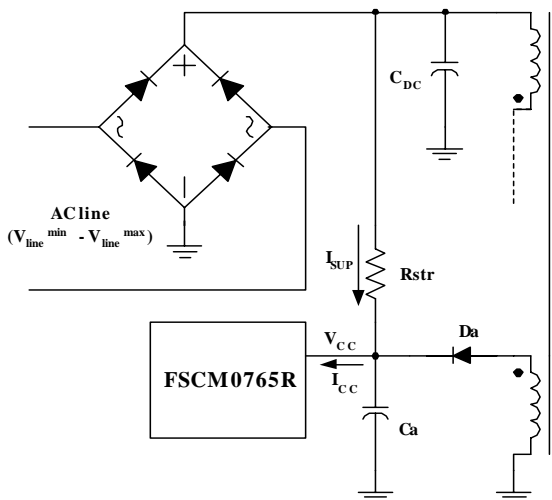
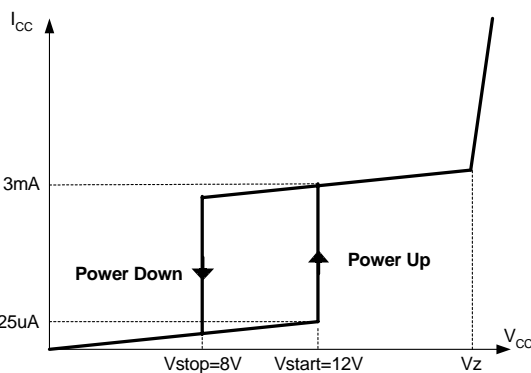

Figure 16. Startup Circuit
Figure 17. Relation Between Operating Supply Current and Vcc Voltage
1. Startup: Figure 16 shows the typical startup circuit and transformer auxiliary winding for the FSCM0765R application. Before the FSCM0765R begins switching, it consumes only startup current (typically 25uA) and the current supplied from the DC link supply current consumed by the FPS (I_{cc}), and charges the external capacitor (C_a) that is connected to the Vcc pin. When Vcc reaches start voltage of 12V (V_{START}), the FSCM0765R begins switching, and the current consumed by FSCM0765R increases to 3mA. Then, the FSCM0765R continues its normal switching operation and the power required for this device is supplied from the transformer auxiliary winding, unless Vcc drops below the stop voltage of 8V (V_{STOP}). To guarantee the stable operation of the control IC, Vcc has under voltage lockout (UVLO) with 4V hysteresis. Figure 17 shows the relation between the current consumed by the FPS (I_{cc}) and the supply voltage (Vcc).